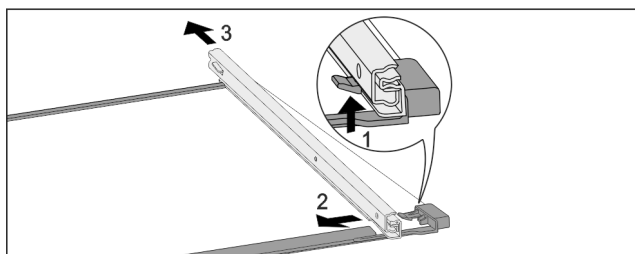

Fig. 159 Glass shelf with rails
- Push up front click-in hooks. Fig. 159 (1)
- Move the pull-out rails to the side Fig. 159 (2) and to the rear Fig. 159 (3).